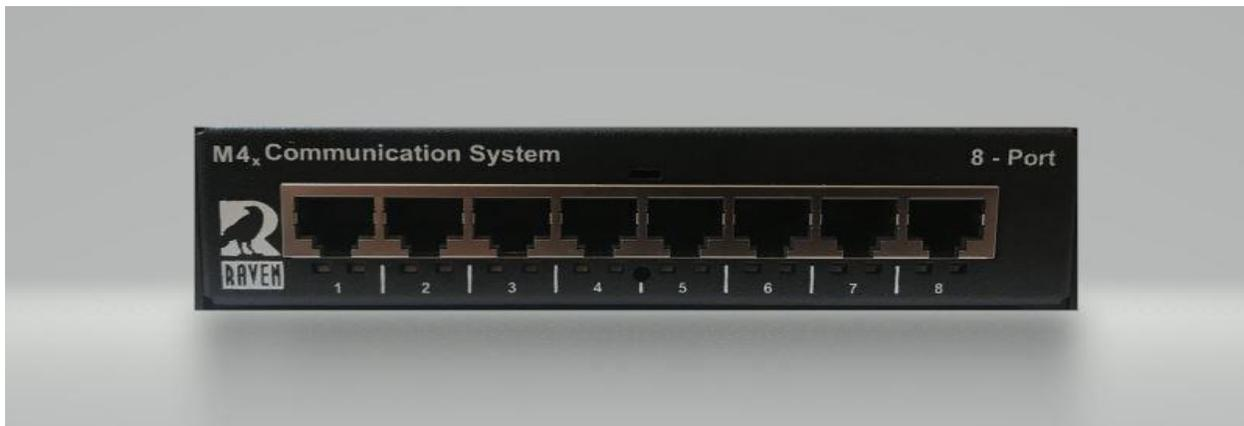

Figure 1-1: Front view of the 8-port Blade.
To configure a Blade that has a VoIP interface in it, you will need the power supply sent with the unit as well as a CAT 5 ethernet cable that is connected to your network. Figure 1-1 shows the front view of an 8-port Blade and Figure 1-2 shows the front view of a 2-port Mini Blade.
2. Plug in a CAT 5 Ethernet cable that is on your network into Port 7 (8-port Blade) or into Port 1 (2-port Mini Blade). Refer to Figure 1-1 and 1-2 that shows the numbering of the ports. ***If you have multiple new blades to configure, connect only one at a time since it has the same static IP of 192.168.50.65***